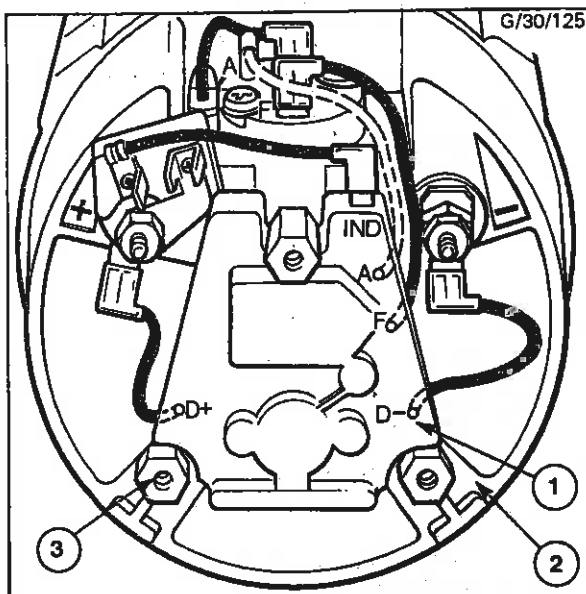

Fig. 89 - Replacing the Regulator
1. Position the regulator (1) on the slip ring end shield (2) the correct way round as shown in Fig. 89 and secure with the three pillars (3) and spring and plain washers. Tighten pillars to 1,7 to 2,3 Nm (0,17 to 0,23 kgf m or 15 to 20 lbf in).